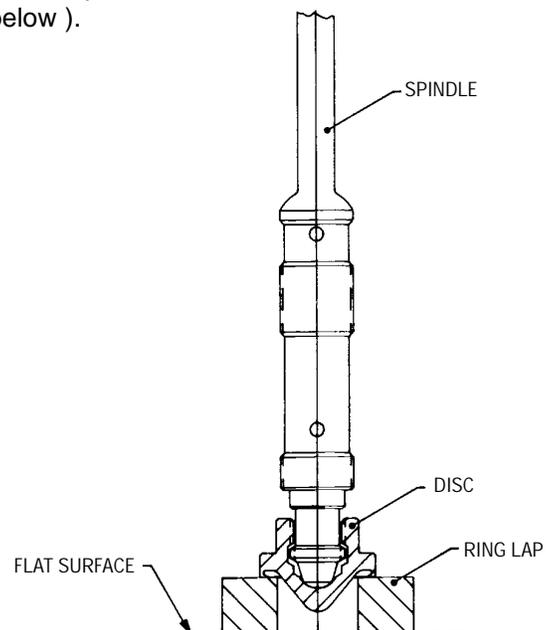

FIGURE 13
- d. Apply a small amount of lapping compound (1A) on the tip of the spindle. Install the disc - without the disc holder - onto the spindle tip, turning it clockwise until the disc threads drop out. Place a ring lap on a table, or similar flat surface, and wipe the exposed surface of the lap clean. Insert the disc nose into a ring lap, so that the seat contacts the lap surface. Oscillate the spindle using 360 degree oscillations for approximately 15 seconds, then check the spindle tip and disc "pocket" to determine progress. (See Figure 13, below).